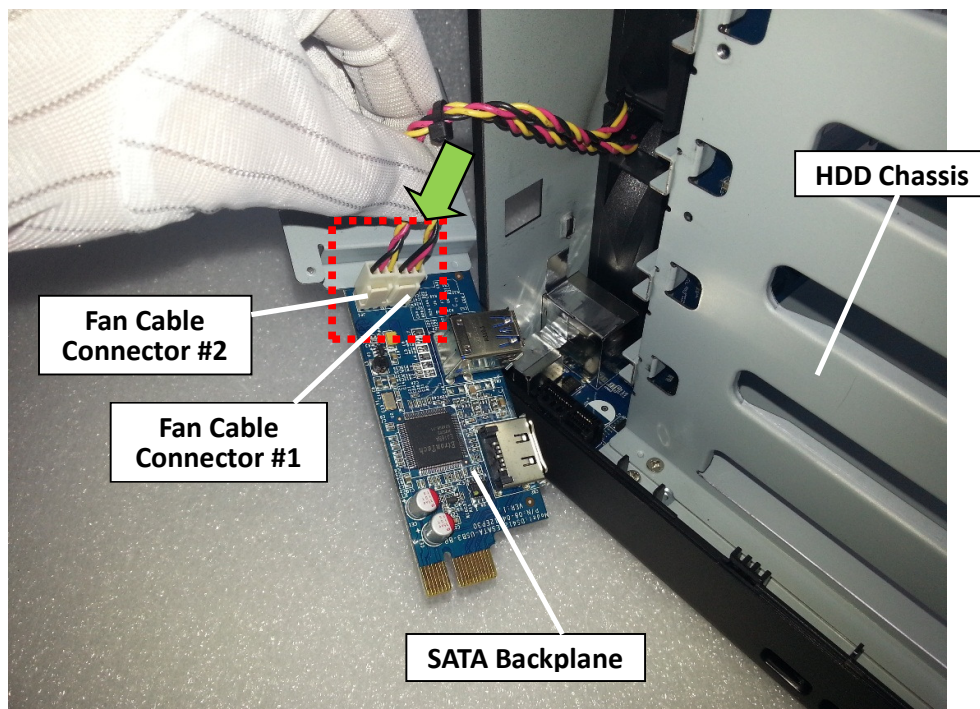

Fig. 32
2.2.6 Plug back the two (2) fan cable connectors (Marked by the red rectangle) to the SATA backplane. (Fig. 32)